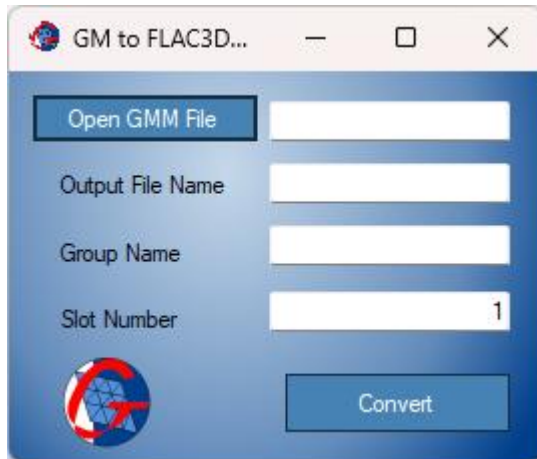

Figure 19: Geo Meshing v6 to Flac3D® Geometry dialog window.
- **GM to Flac3D® Geometry:** Opens a dialog window (shown in Figure 19) for converting *Geo Meshing v6* meshes to Flac3d® geometry. The resulting file can be imported in Flac3D® using *Open Item/Geometric Data: Import* option.